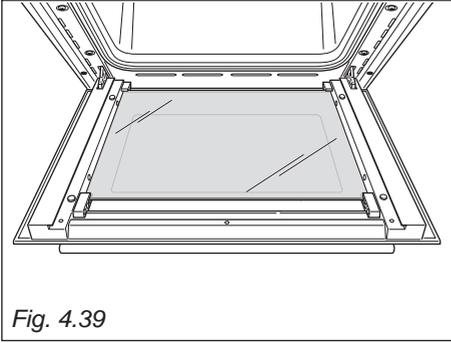

Fig. 4.39
- Gently unlock the middle pane of glass from the bottom clamps by moving it as in fig. 4.39.